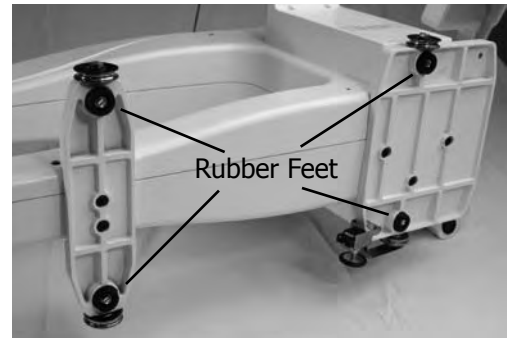

Fig. 4-A
**4-1.** To install the Belt Brackets onto your Baby Lock Jewel machine, you will first need to carefully place the machine on its side. Looking at the machine from the front (needle side), you will lay it on its left side, exposing the rubber feet as shown in Fig. 4-A.
**4-2.** If you have rubber feet on the bottom of your machine remove all the feet by unscrewing the flat-headed screw in the middle of each foot, as shown in Fig. 4-A.